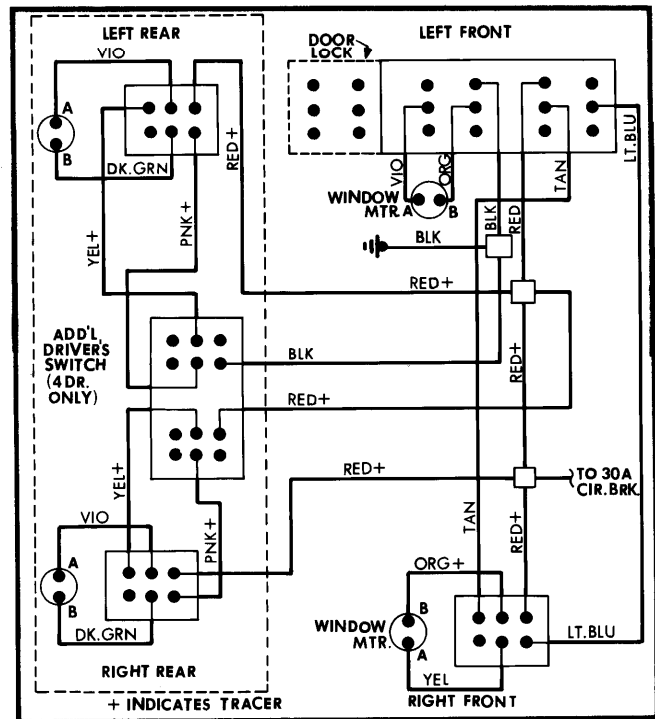

Fig. 1 Power Window Wiring Diagram American Motors
2) Reverse jumper wire connections. Motor should move window in opposite direction from first test. See Fig. 1.